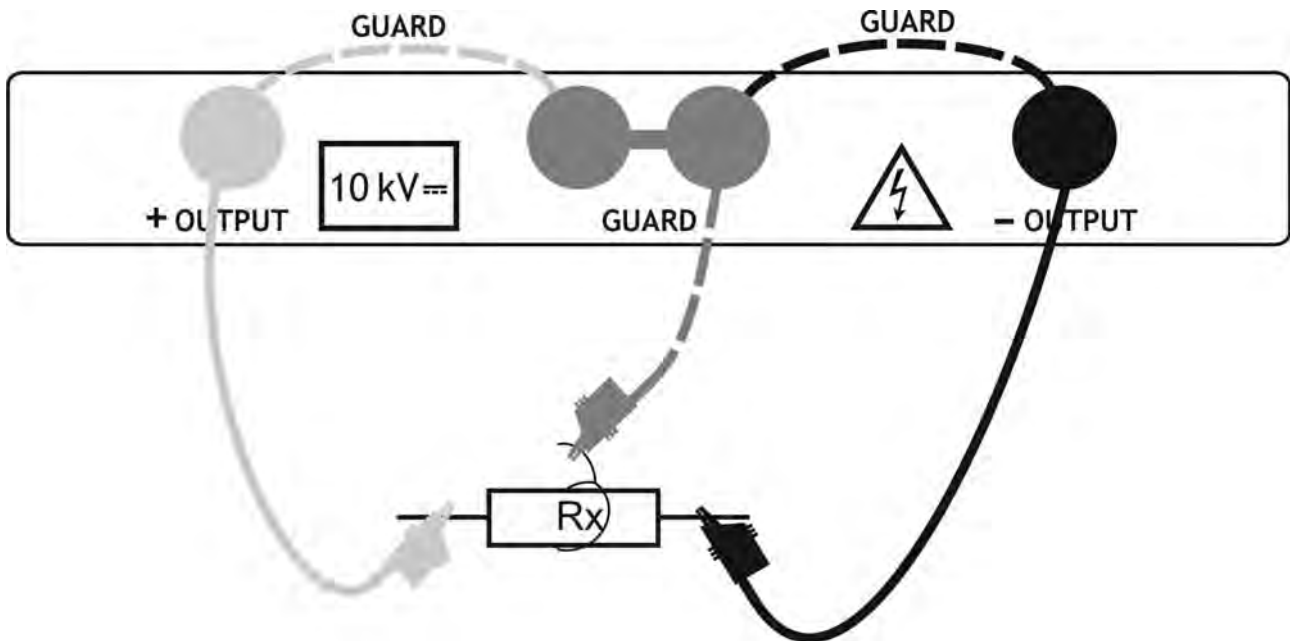

Fig. 33: Connection of instrument for diagnostic test
3. Connect the red part of the Test lead 1 or Test leads 2 (see § 4.2) to the **+OUTPUT** input and the black part of the Test leads 2 (see § 4.2) to the **-OUTPUT** input. In case of use of GUARD terminals (see § 6.2) connect also the green cables to the "GUARD" input (see Fig. 33)
4. Connect the tip of Test lead 1 or Test leads 2 (positive) and the black cable of Test leads 2 (negative) to the object on test (see Fig. 33)